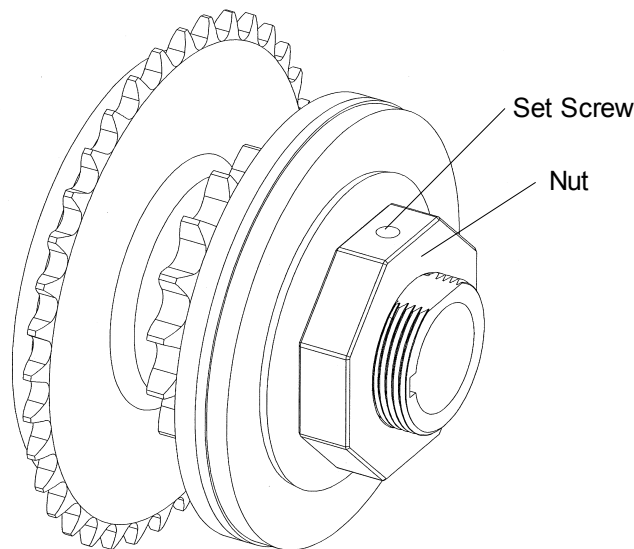

Figure 38 - Clutch Adjustment
1. Loosen clutch set screw, refer to Figure 38.